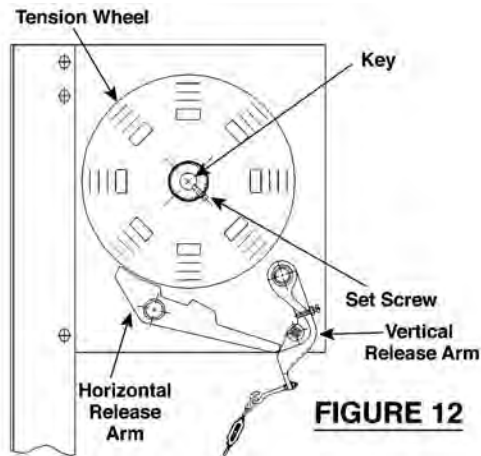

FIGURE 12
- Position tension wheel in vertical alignment with release levers. Insert key and tighten set screw. NOTE: Right Hand Drive shown in Figure 12; LH opposite.